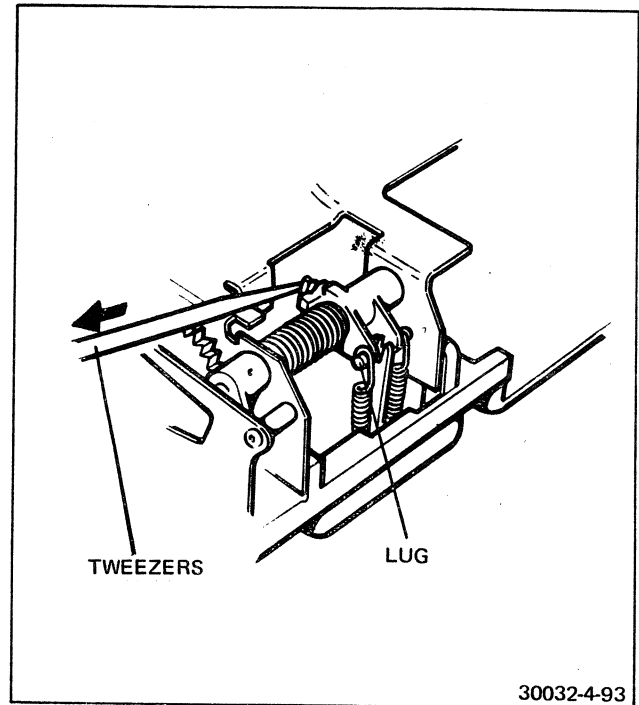

FIGURE 4-94 REMOVING FRESNEL CARRIER DRIVE SPRING
14. Refer to Figure 4-94. Use tweezers and slip the hooked end of the Fresnel carrier drive spring off its retainer on the drag link bell crank. Free it from the lug of the overdrive spring.